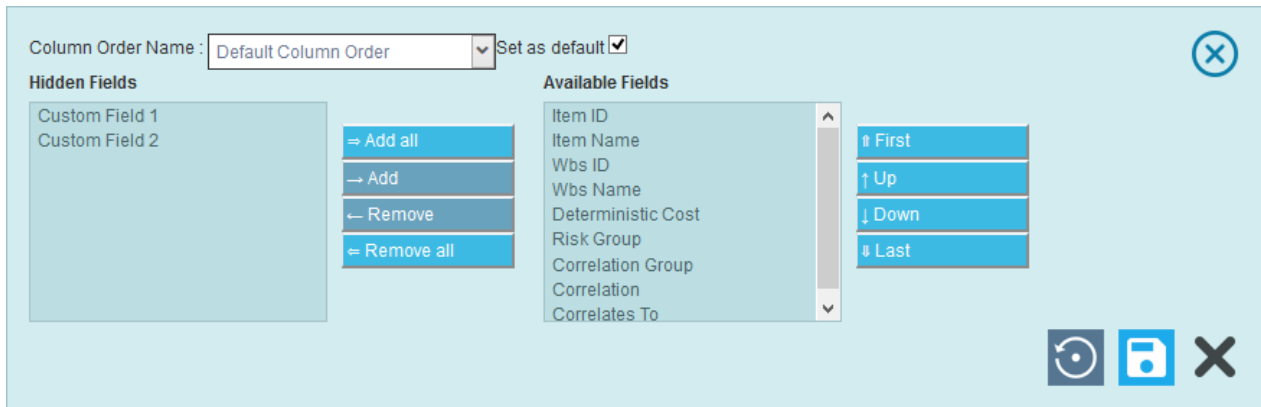

Figure 2.53
3. Give the changes and click on **save** icon. To reset the changes done, click **Reset** icon. (Figure 2.53)